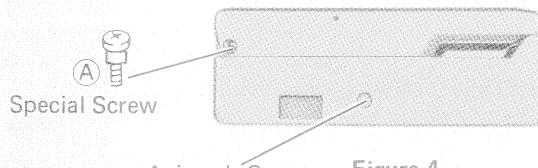

Figure 4
1. Remove two screw **(A)** from both sides of the front cabinet to take it out. (Figures 4 and 5)